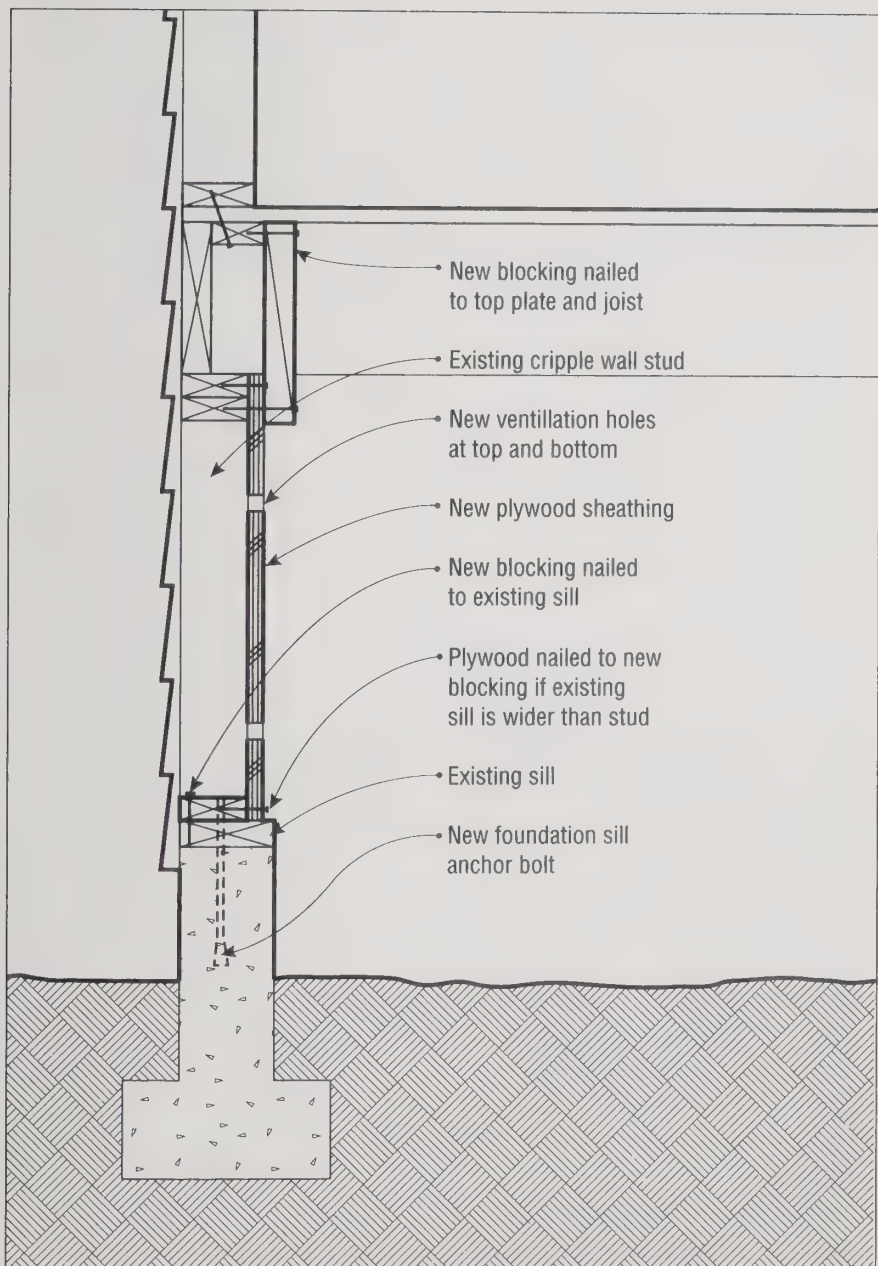

Figure 6: Strengthening cripple walls by adding plywood panels.
E. Weak Cripple Walls—Houses often have short wood frame walls between the floor joists and the concrete foundation. Many of these cripple walls are not adequately braced, and this weakness allows buildings to shift sideways and collapse downward in earthquakes. The cripple wall can be strengthened by adding plywood panels. This reconstruction is usually done in the crawl space, so a low crawl space means greater difficulty (see Figure 6 for specific requirements). Strengthening can also be done from the outside, but this requires the removal of the exterior finish material.